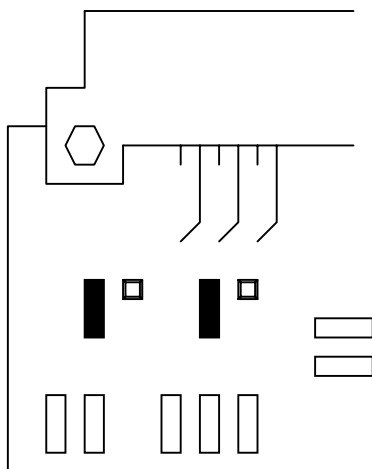

Figure 1.
1. Horizontally mounted boards are normally configured to accept a DC print signal within the range 10 to 50 volts (polarity unimportant), and the blue selector jumpers are pegged north-south i.e. sitting parallel to each other, see figure 1.